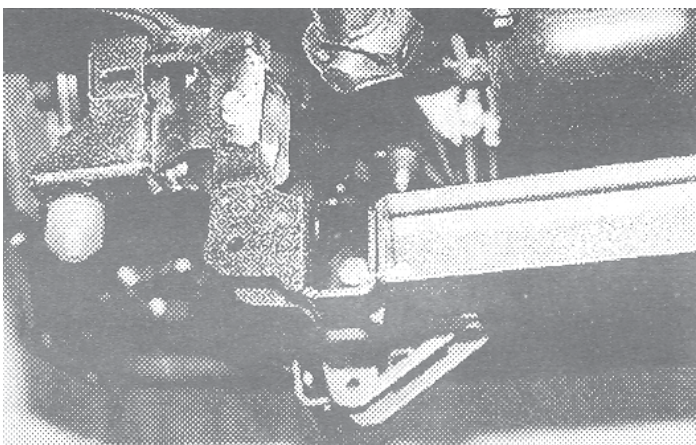

Fig. 18
17. Install bracket "CL" into DVR side lower rear control arm receiver. Use 1-15/16" spacer, 9/16" x 3-1/2" bolt, washers, and nut provided. Bracket "CL" will also engage rear differential mount, **Fig. 18**. **Note: "CL" must move freely. Do not tighten fasteners at this time.**